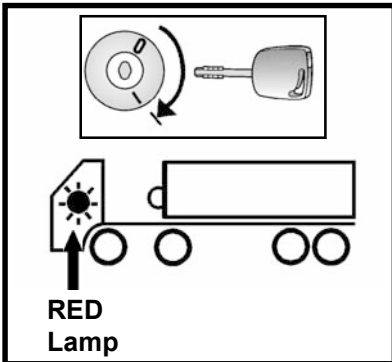
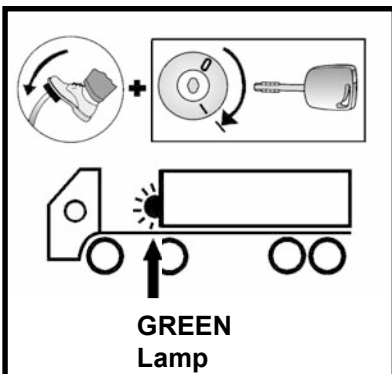
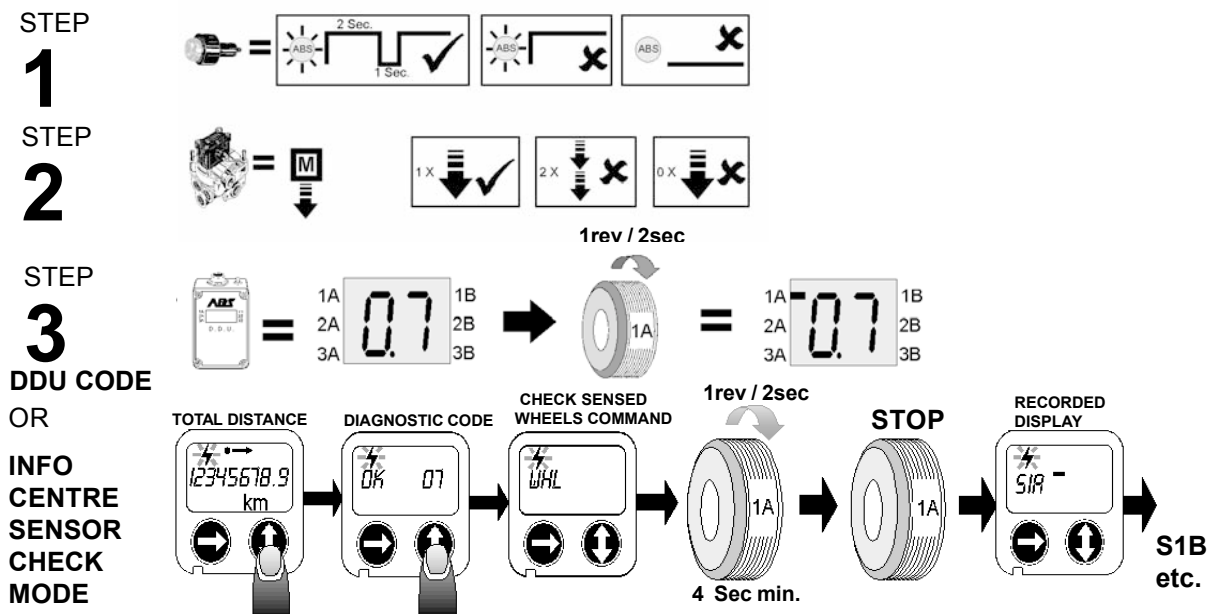

Fig 4
Fig 5
Fig 7
-To indicate system integrity via the correct lamp sequence (see Fig 4, Fig 5 on page 7 and step 1- Fig 7 on page 8) every time the ABS ECU is electrically powered up.
RED warning lamp located on the driver's console of the towing vehicle is operated from the **ISO 7638** (or **ISO 3731 - 24S**) power cable **only** when the ABS is powered by the ignition switch. Fig 4.
GREEN warning lamp mounted on the headboard of the trailer and is operated from the **ISO 1185 (24N)** connector when the ABS is powered **only** from the stop lamp power supply i.e. when the brake pedal is depressed. Fig 5.
This information is described visually in Fig 7 on page 8. (MODULAR 1 system shown only)